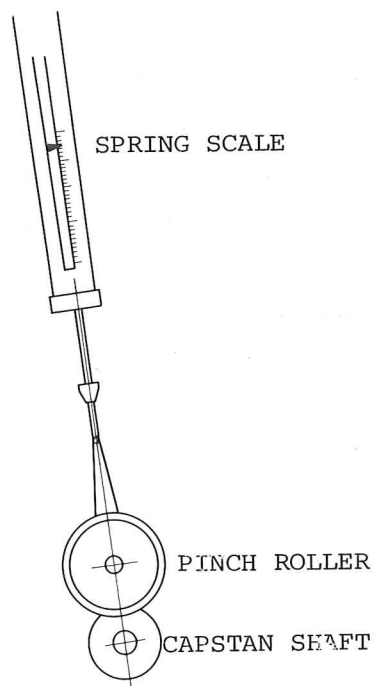

Fig. 3-4 Pinch Roller Pressure Measurement
4. Hook a 0 to 10 pound spring scale to the other end of the cord and pull the cord taut, straight to the center of the capstan as is shown in Fig. 3-4. Do not let the cord come into contact with the rotating pinch roller.